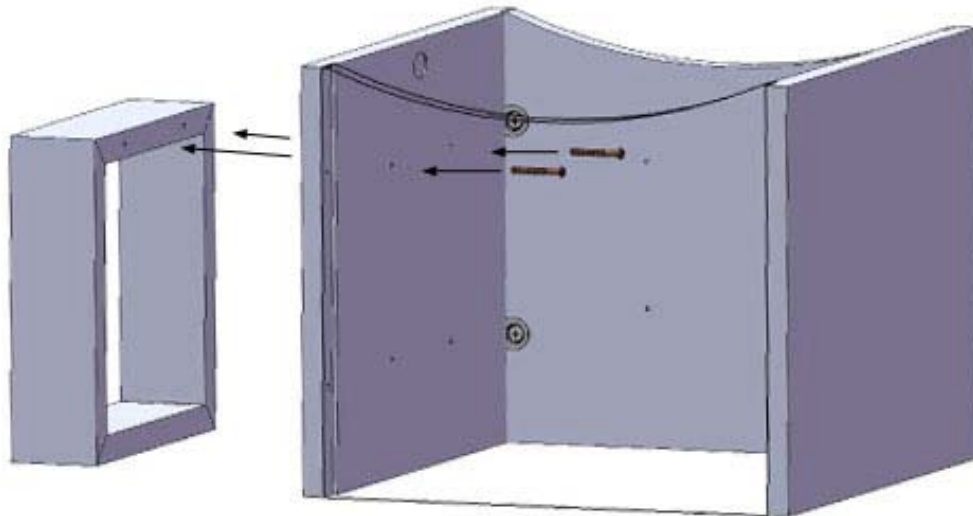

Figure 1
1. Lay the wave cube on it's open back on a clean surface. Screw the #8 square head screws through the pre-drilled holes until the tip of the screw breaks through the surface (**Figure 1**).
2. Line the #8 square head screws up with the pre-drilled holes in the pedestal and continue drilling until the pedestal is attached and screws are flush with cube panel surface (**Figure 1**).